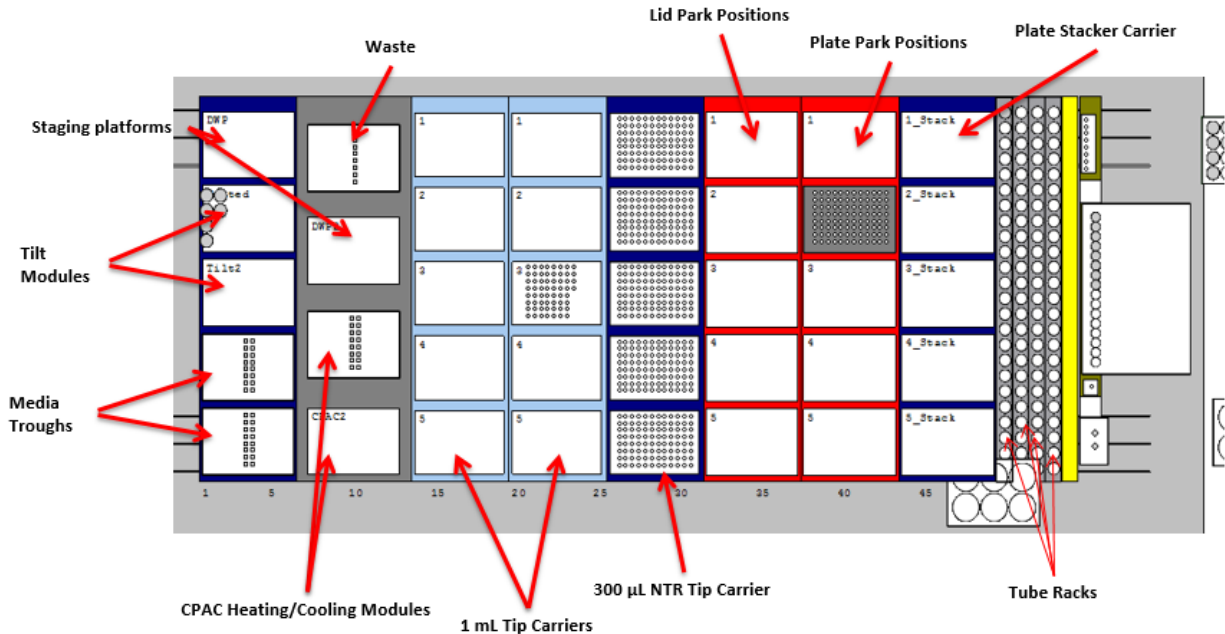

Figure 1. Hamilton STAR Deck Layout.
2. Load open-capped 15 mL conical tubes (one tube per row of seeding) for cell seeding into Tube Rack 1 in location indicated in Figure 1.